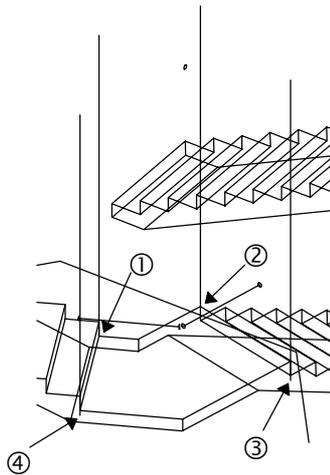

Figure 24
Begin by creating a new layer called "ShadeCloth", freezing all layers except *Stair*, *Construction* and *ShadeCloth*, and setting *Construction* as the *Current Layer*. Then, zoom in on a view of the third landing from the bottom similar to that shown in Figure 24. Follow these steps:
- Position the *UCS* so that the *Origin* lies at 3 (Figure 24) and the *Z-axis* runs up the (now sloping) line — construct a 10 mm radius circle centred at 3 (which we will extrude later to form a pole to support the tarpaulin) — do the same at point 4.